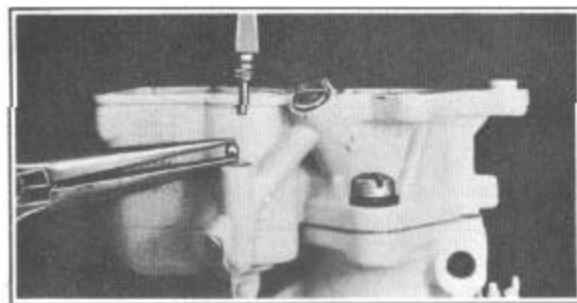

FIGURE 38
12. Install pump check ball and pump discharge ball retainer and gasket, Figure 38.